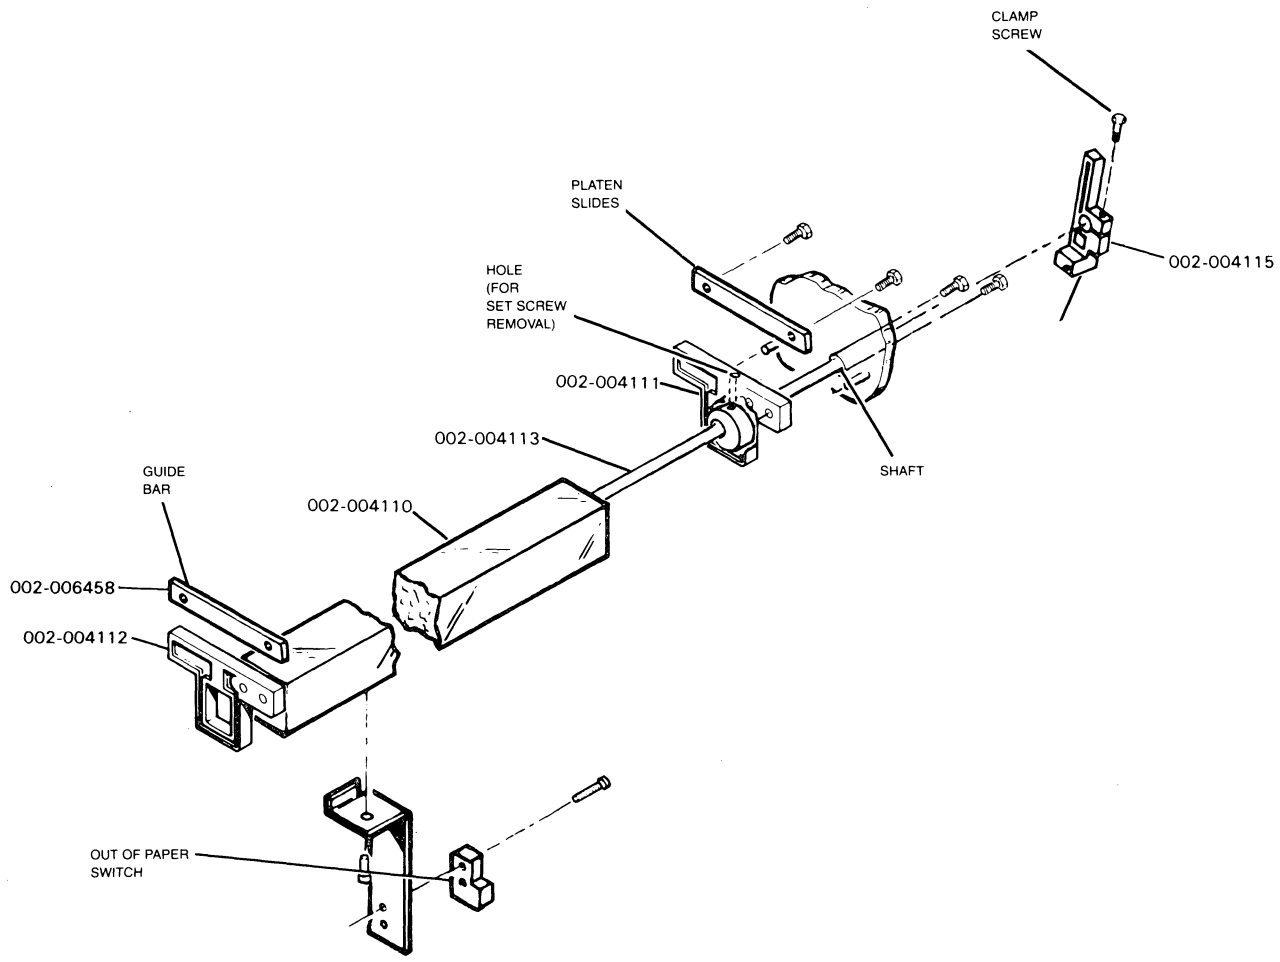

Figure 5.16 Platen Removal/Replacement
3. Remove two guide bars located above platen slides, inside each end plate (see Figure 5.16).